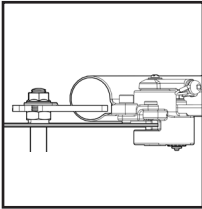

Figure 66
- To ensure that the brake caliper is positioned correctly, loosen the bolts holding it in place, and position it so that the outside brake pad is slightly closer to the rotor than the inside brake pad (see Figures 66 & 67). Then re-tighten those caliper mounting bolts, alternating until they are both tight. Spin the wheel to make sure there is no rubbing on any point on the rotor.)